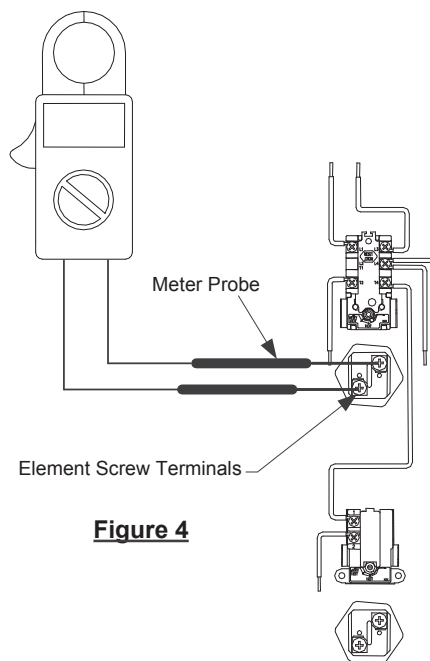

Figure 4
- Step 5. Touch probes of multi-meter to screw terminals of heating element(s) (see Figure 4).